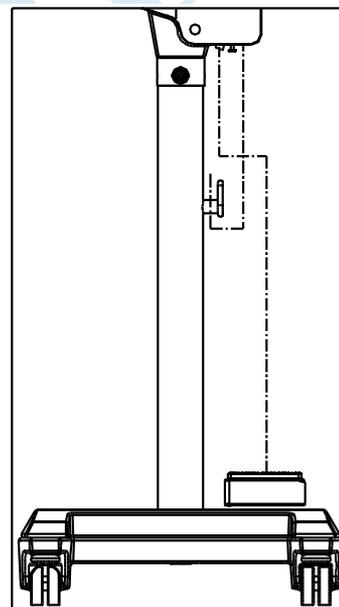

Fig.10
3. Place the footswitch[1] flantly on the balance board[3]. (Fig.10)